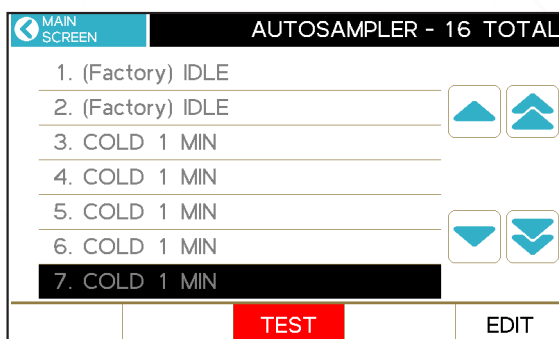

Figure 6
- The Autosampler test menu will appear and display 16 vial locations that correspond to vial positions on the carousel. Use the touch screen to select the vial position to be loaded (fig. 6).